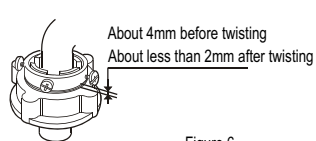

Figure 6
5. Install the drain outlet protecting cover to the other side, as indicated in Figure 6.
After installation, the threading is 2mm above the upper surface of the nut. See to figure 6.